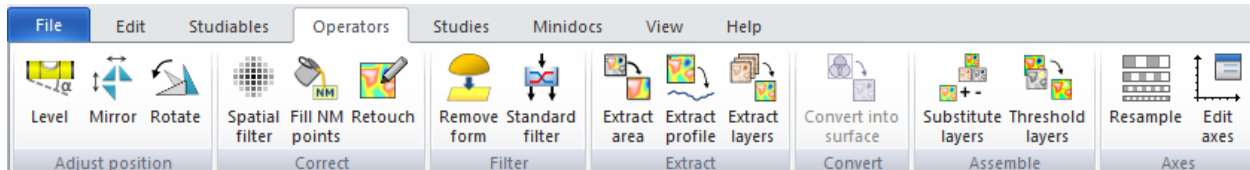

Figure 2: Extract an area of interest with *Operators > Exact area*.
- *Operators > Extract area*. See **Figure 2**.